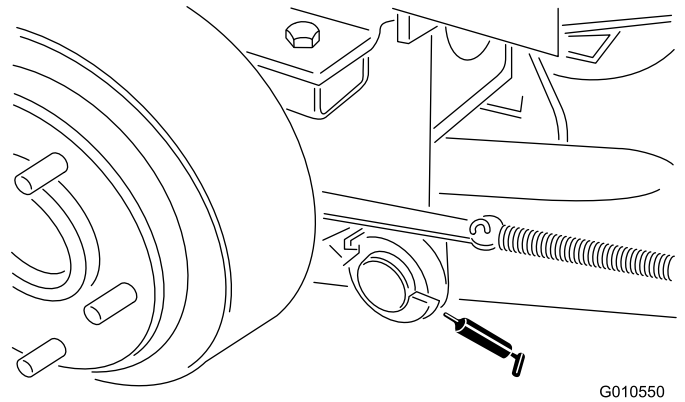

Figure 21
- Lift arm pivots, rear (2) (Figure 21)